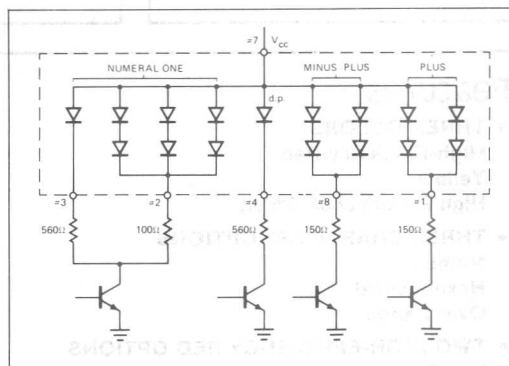

Figure 9. Typical Driving Circuit.
- NOTES: L: Line switching transistor in Figure 9 cutoff.
H: Line switching transistor in Figure 9 saturated.
LED current must be externally limited. Refer to Figure 9 for recommended resistor values.